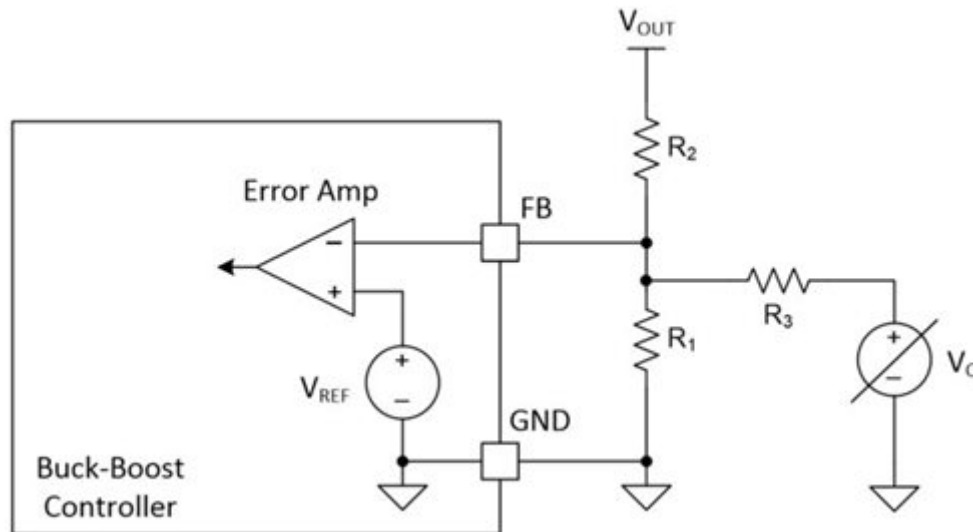

Figure 1: Adjusting V_{OUT} with a modulated voltage source
Figure 1 shows an example in which a modulated voltage source (V_C) alters the feedback (FB) pin voltage. Therefore, Equation 1 determines the V_{OUT} :